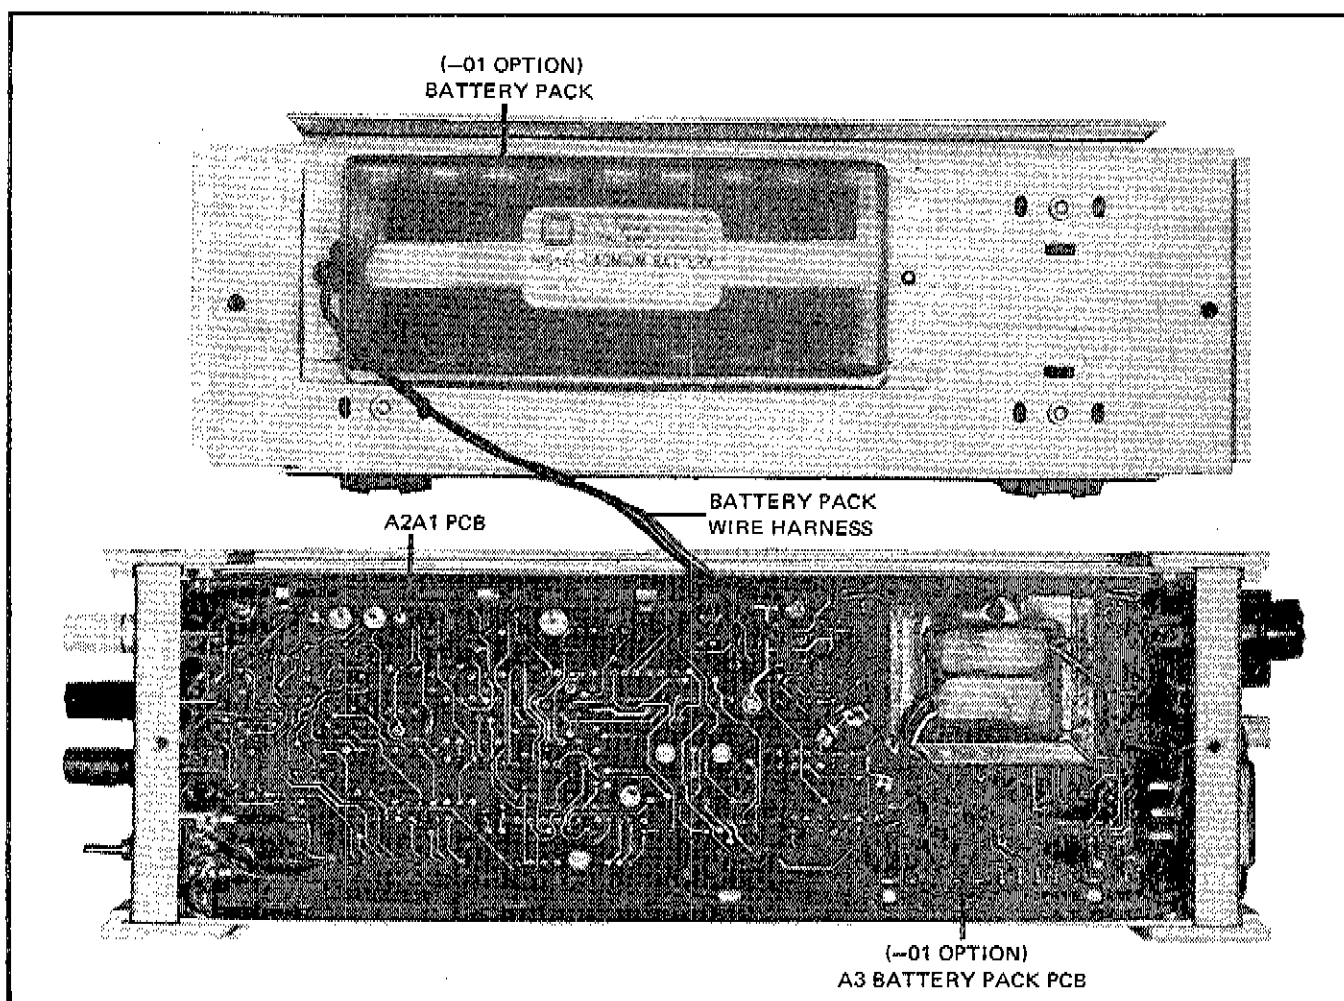

Figure 4-2. ASSEMBLY LOCATIONS (BOTTOM COVER REMOVED)
- Remove the bottom dust cover. Access is now provided to assemblies shown in Figure 4-2.
- Locate the assembly to be removed using Figure 4-2.
4-19. The batteries for the -01 Option are installed on the inside of the bottom dust cover as shown in Figure 4-2. If replacement is necessary, the entire Battery Pack, FLUKE PART NO. 284356, should be replaced. Proceed as follows:
- a. Disconnect the four wires labeled 1 through 4 from A3 Battery Pack PCB. Refer to Figure 4-2 for location.